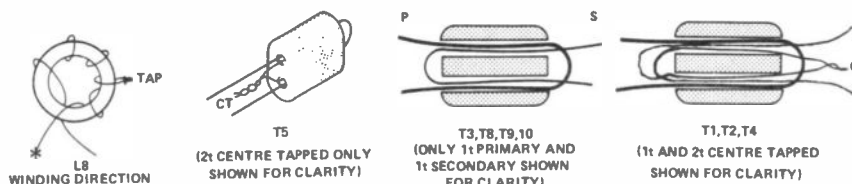

Fig. 4 Winding guide to the RF transformers used in ALPHA
winding the core is *important* so that the leads come out the right way round for the board (see Fig. 4). There are several ways of defining the number of turns on a toroid — for our purposes, the number of turns is equal to the number of wires you can count on the outside of the core (the illustration has six turns). The tap is made by forming the leads into a loop about 8mm long as you reach the tap point, then continuing for the remainder of the winding. Make the coil using a 19cm (26cm) of 0.56mm wire, tapping at 2 (3) turns. Cut the two free ends to 10mm in length, strip off the insulation as before (off both ends and the tap), and solder into place. The tap is best connected using a short length of wire previously soldered to the PCB hole ().